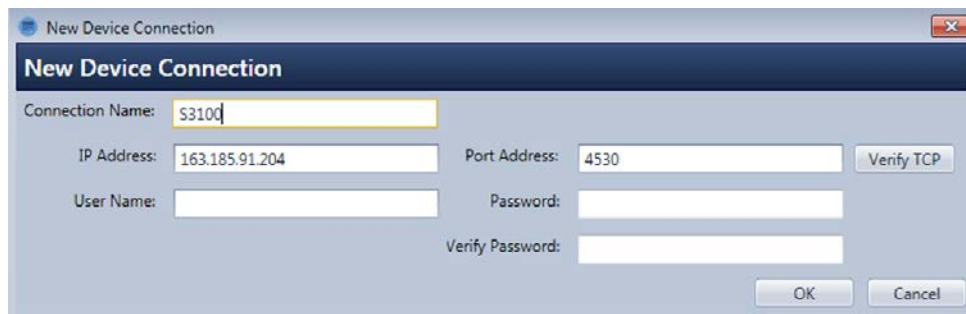

Figure 3.5—New Device Connection dialog
4. In the *New Device Connection* dialog (Figure 3.5), enter the following information.